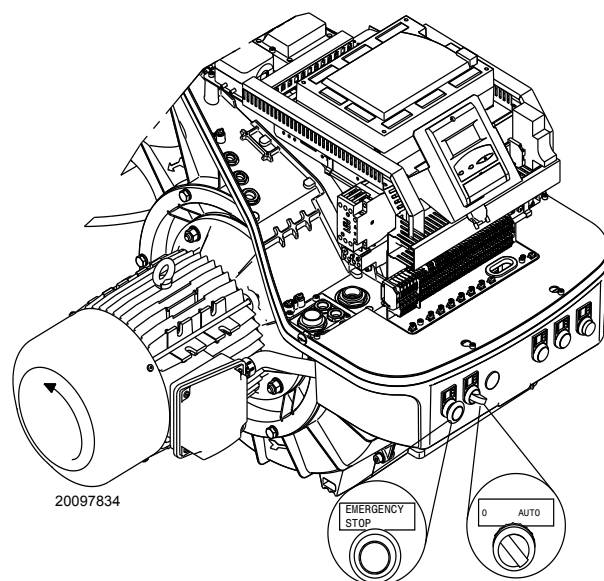

Fig. 27
Close the thermostats/pressure switches. Turn the switch of Fig. 27 to position “**AUTO**”.
Make sure that the lamps or testers connected to the solenoids, or indicator lights on the solenoids themselves, show that no voltage is present. If voltage is present, stop the burner **immediately** and check the electrical wiring. When the burner starts, check the direction of the motor rotation, as indicated in Fig. 27.
- place the switch of Fig. 27 in position “**0**” and wait for the control box to carry out the switch-off phase;